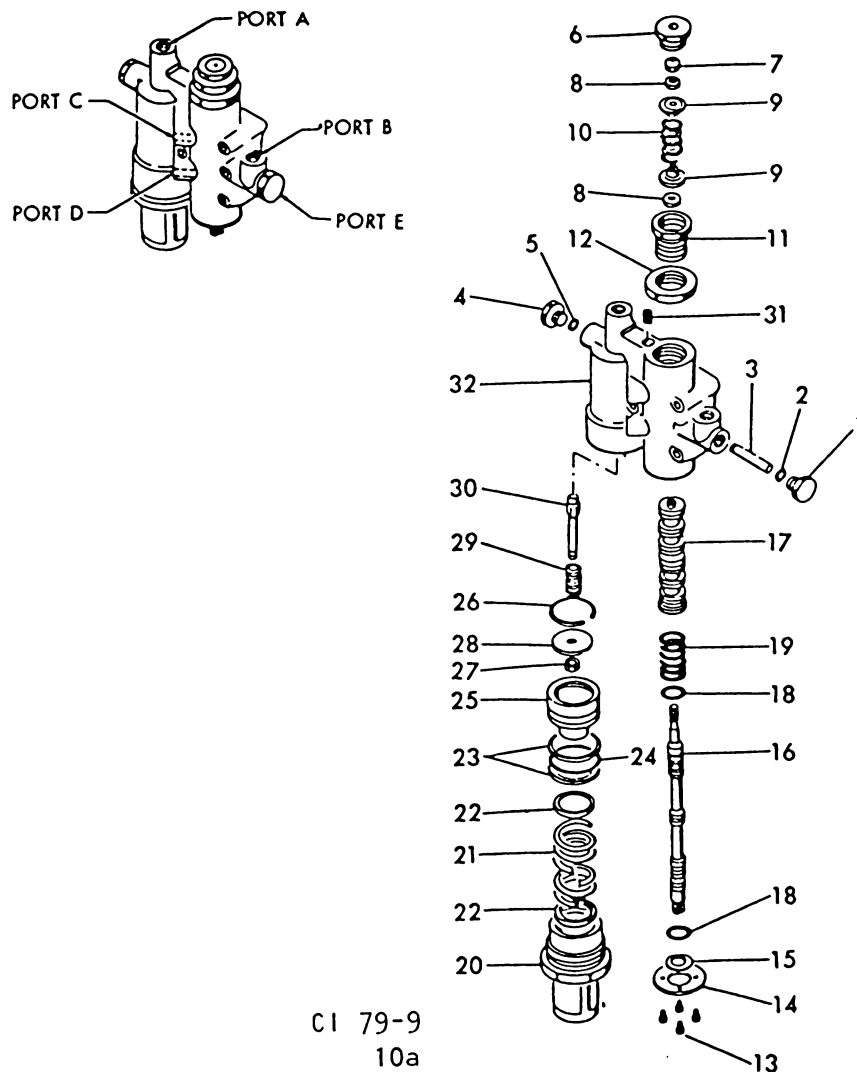

Figure 3-2. Nose steering metering valve breakdown.
Bench Checking Steering Control Valve. When bench checking and repairing components, use the steps previously discussed in Volume 1. These consist of acquiring the special tools, disassembly, cleaning, inspection, repair or replacement, reassembly, and testing. The disassembly is the same order as the key index numbers assigned to the exploded view illustrated in figure 3-2, except that the locknut (12) must be loosened before removing bushing (11). Also be careful when removing the cap (20), because of the large spring (21). Clean all parts
and wear. Check all threads for burrs and damage. Remove minor nicks, scratches, and corrosion from parts, except lapped surfaces, by polishing with crocus cloth. Replace any part that cannot be repaired, as well as all packings. Shaft (16) and sleeve (17) are a matched set; if either part requires replacement, replace the assembly. Reassemble the components in reverse order of disassembly, except that the shaft (16) will have to be adjusted so that it is centered in port E, as viewed through the open port. After the unit has been reassembled, it is now ready for testing. Before we go through the various tests that should be performed, you should know the names and locations of the various ports. Notice that the upper left hand side of Figure 3-2 shows the complete valve with the ports lettered. These ports are:
Use figure 3-2 when answering the following questions.